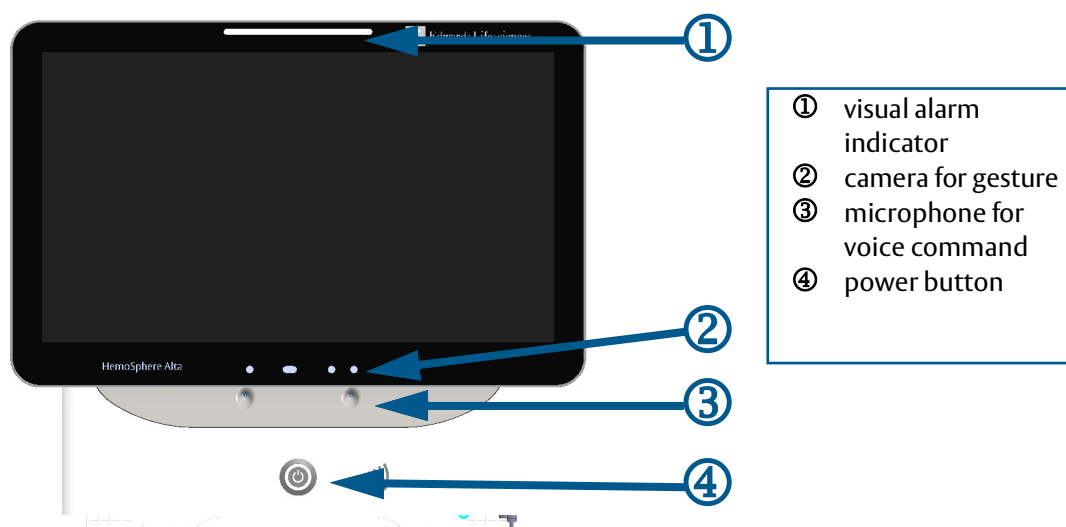

Figure 3-1 HemoSphere Alta advanced monitor front view
To power the monitor off, touch the power button. See ② in Figure 3-1 on page 68. The following options will be displayed: